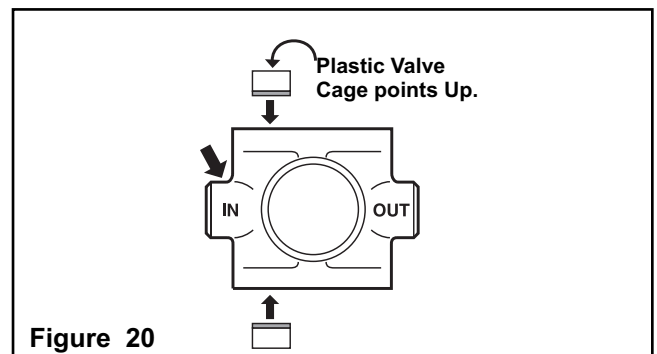

Figure 20
2. Install the Valve Assemblies into the **INLET** side valve bores with the plastic valve cage portion facing **UP** (See Figure 20).